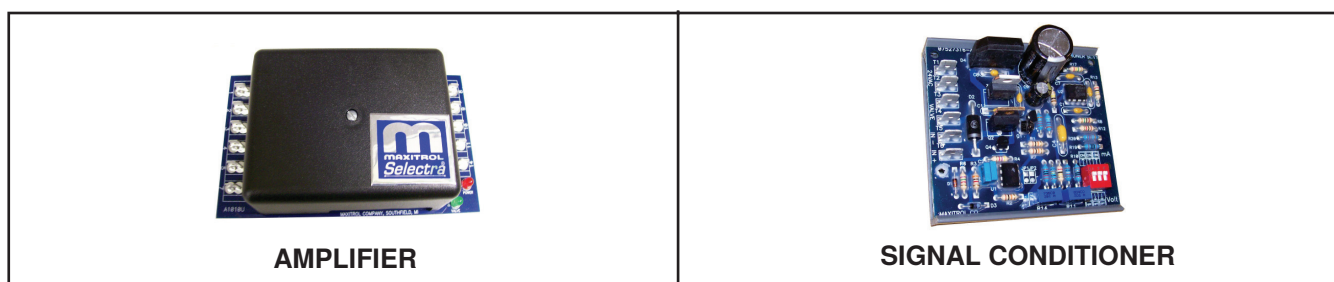

Figure 36. Maxitrol Amplifier and Signal Conditioner
The type and capability of the electronic modulation system, depends on the option selected. Depending on the heat requirements as established by the thermistor sensor, the burner modulates between 100% and 50% firing. The thermistor is a resistor that is temperature sensitive in that as the surrounding temperature changes, the ohms resistance changes through the thermistor. This change is monitored by the solid state control center (amplifier) (see Figure 36) that furnishes varying DC current to the modulating valve to adjust the gas input. The amplifier is shipped separately for field-mounting. Each modulating valve is basically a regulator with electrical means of raising and lowering the discharge pressure. When no DC current is fed to this device, it functions as a gas pressure regulator, supplying 3.5 IN WC pressure to the main operating valve.
- **Electronic modulation between 50% and 100% firing rate (option AG8):** Electronic modulation for makeup air application that is controlled by a duct sensor and temperature selector (55–90°F (12.8–32.2°C)). The temperature selector setting for option AG8 is on the amplifier (see Figure 36). Option AG8 is available with an override thermostat.
- **Electronic modulation between 50% and 100% firing rate (option AG21):** With option AG21, the furnace is equipped with a Maxitrol signal conditioner (see Figure 36) that operates much the same way as the amplifier above to control the regulator valve. The conditioner accepts an input signal of either 4–20 milliamps or 0–10 volts from a customer-supplied control device such as a computer. With the dip switches on the conditioner in the ON positions, the conditioner accepts a 4–20 milliamp signal. In the OFF positions, the conditioner accepts a 0–10V signal. The conditioner converts the signal to the 0–20 volt DC current required to control the modulating valve.